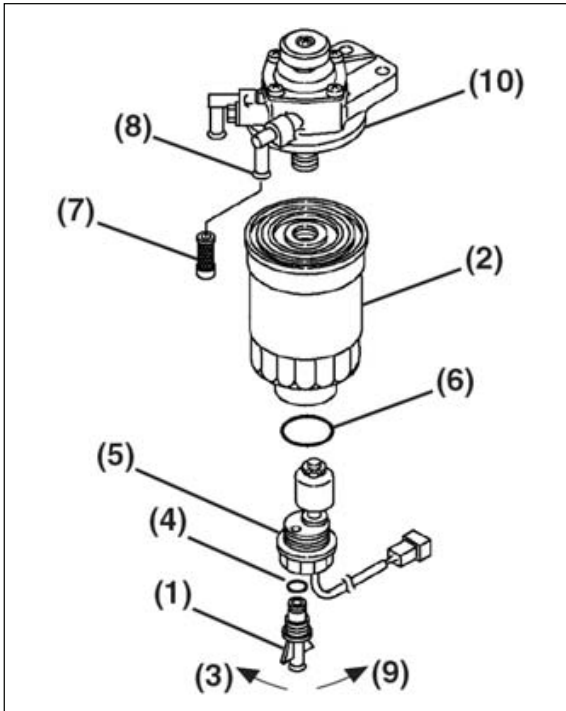

Figure 5-15
5. Carefully open the drain plug (**Figure 5-15, (1)**) to drain fuel from the fuel filter.
7. Remove the drain plug (**Figure 5-15, (1)**) from the fuel filter (**Figure 5-15, (2)**) by turning it to the left (**Figure 5-15, (3)**).
8. Check the condition of the drain plug O-ring (**Figure 5-15, (4)**). Replace the O-ring if damaged.
9. Set the drain plug (**Figure 5-15, (1)**) aside for reinstallation.
10. Remove the fuel filter sensor assembly (**Figure 5-15, (5)**) by turning it to the left (**Figure 5-15, (3)**).
11. Carefully remove the in-line fuel filter (**Figure 5-15, (7)**) from the output nipple (**Figure 5-15, (8)**) that goes to the fuel injection pump.
13. Carefully install the new in-line fuel filter (**Figure 5-15, (7)**) into the output nipple (**Figure 5-15, (8)**).
14. Carefully install the fuel filter sensor assembly (**Figure 5-15, (5)**) in the new fuel filter using the new O-ring supplied with the fuel filter (**Figure 5-15, (2)**) by turning the fuel filter sensor assembly to the right (**Figure 5-15, (9)**).
15. Install the drain plug (**Figure 5-15, (1)**) on the new fuel filter (**Figure 5-15, (3)**) by turning the drain plug to the right (**Figure 5-15, (8)**). Hand tighten only.
16. Clean the fuel filter mounting surface (**Figure 5-15, (10)**) and apply a small amount of diesel fuel to the gasket of the new filter.